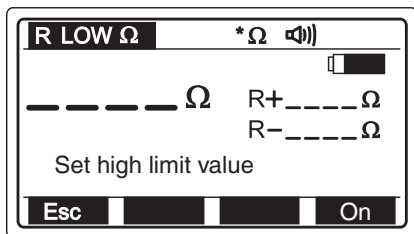

Figure 9: Menu for Setting Limit Values
▶ For limit value setting first press function key F2 (Lim) to enter the setting menu for limit values, please refer to Figure 9: